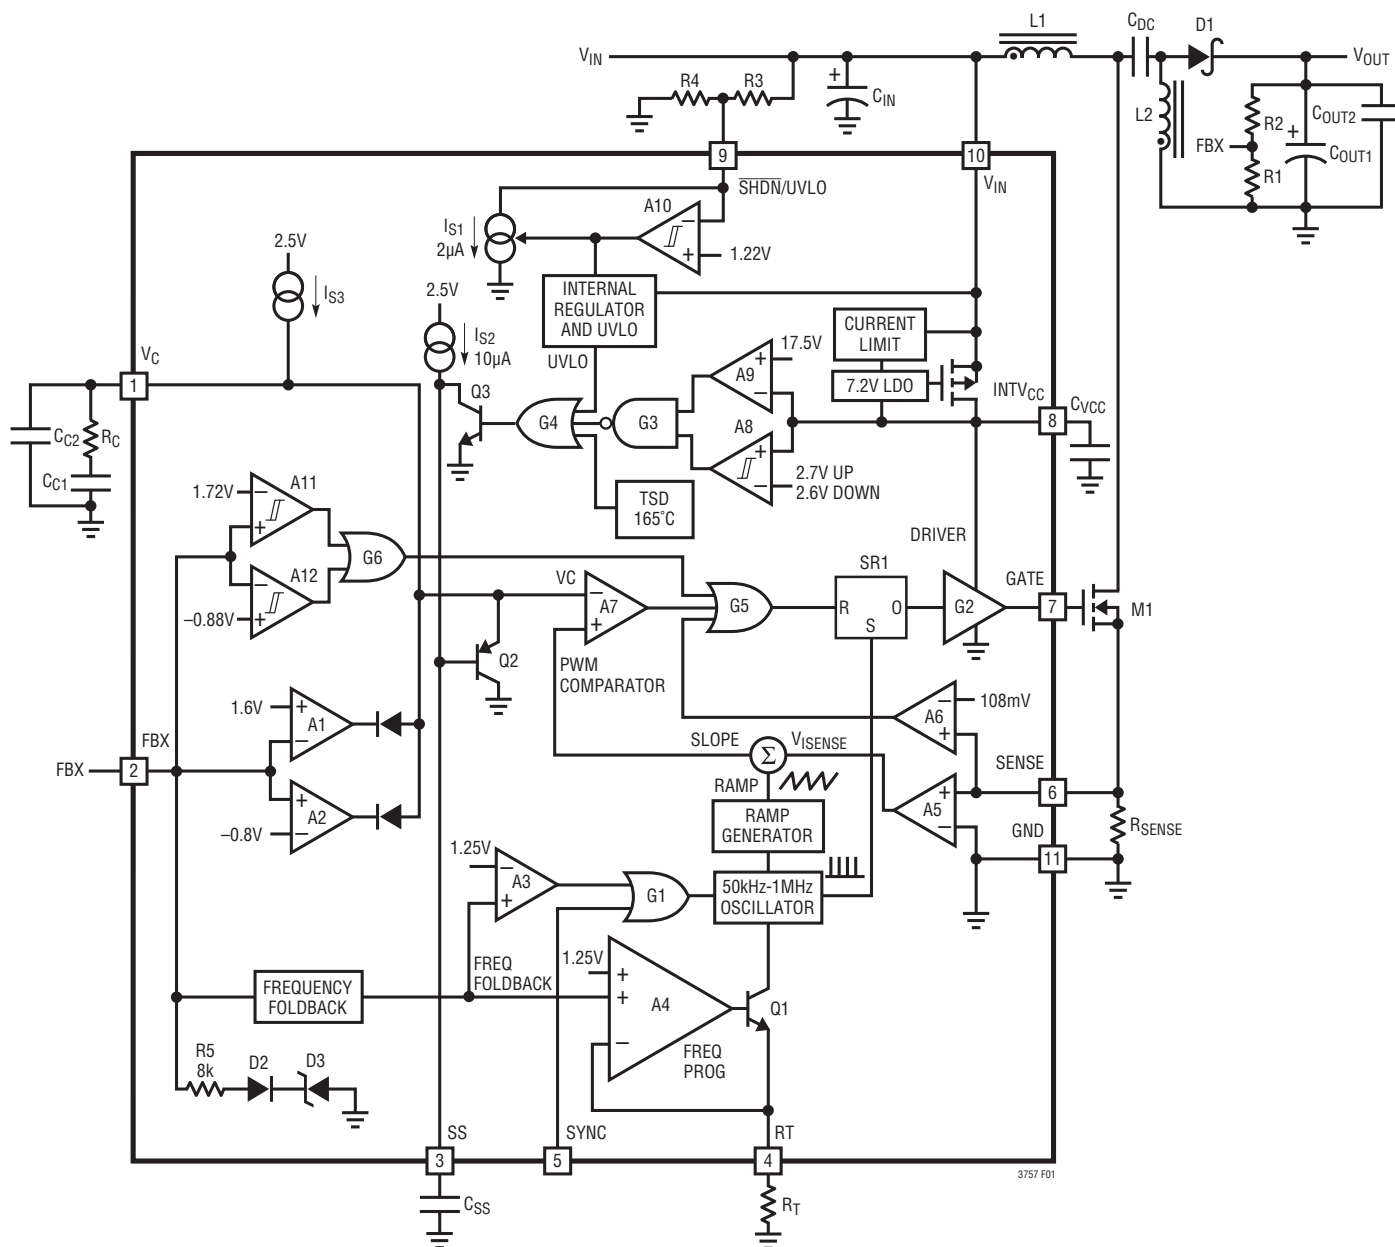

Figure 1. LT3757 Block Diagram Working as a SEPIC Converter
The LT3757 uses a fixed frequency, current mode control scheme to provide excellent line and load regulation. Operation can be best understood by referring to the Block Diagram in Figure 1.
The LT3757 is capable of generating either positive or negative output voltage with a single FBX pin. It can be configured as a boost, flyback or SEPIC converter to generate positive output voltage, or as an inverting converter to generate negative output voltage. When configured as a SEPIC converter, as shown in Figure 1, the FBX pin is pulled up to the internal bias voltage of 1.6V by a voltage divider ($R1$ and $R2$) connected from V_{OUT} to GND. Comparator A2 becomes inactive and comparator A1 performs the inverting amplification from FBX to V_C . When the LT3757 is in an inverting configuration, the FBX pin is pulled down to -0.8V by a voltage divider connected from V_{OUT} to GND. Comparator A1 becomes inactive and comparator A2 performs the noninverting amplification from FBX to V_C .
The purpose of this current is to allow the user to program the rising hysteresis. The Block Diagram of the comparator and the external resistors is shown in Figure 1. The typical falling threshold voltage and rising threshold voltage can be calculated by the following equations:
An internal, low dropout (LDO) voltage regulator produces the 7.2V INTV_{CC} supply which powers the gate driver, as shown in Figure 1. If a low input voltage operation is expected (e.g., supplying power from a lithium-ion battery or a 3.3V logic supply), low threshold MOSFETs should be used. The LT3757 contains an undervoltage lockout comparator A8 and an overvoltage lockout comparator A9 for the INTV_{CC} supply. The INTV_{CC} undervoltage (UV) threshold is 2.7V (typical), with 100mV hysteresis, to ensure that the MOSFETs have sufficient gate drive voltage before turning on. The logic circuitry within the LT3757 is also powered from the internal INTV_{CC} supply.
The choice of operating frequency may be determined by on-chip power dissipation, otherwise it is a trade-off between efficiency and component size. Low frequency operation improves efficiency by reducing gate drive current and MOSFET and diode switching losses. However, lower frequency operation requires a physically larger inductor. Switching frequency also has implications for loop compensation. The LT3757 uses a constant-frequency architecture that can be programmed over a 50kHz to 1000kHz range with a single external resistor from the RT pin to ground, as shown in Figure 1. The RT pin must have an external resistor to GND for proper operation of the LT3757. A table for selecting the value of R_T for a given operating frequency is shown in Table 1.
The output voltage (V_{OUT}) is set by a resistor divider, as shown in Figure 1. The positive and negative V_{OUT} are set by the following equations:
In the applications where V_{OUT} is pulled up by an external positive power supply, the FBX pin is also pulled up through the R2 and R1 network. Make sure the FBX does not exceed its absolute maximum rating (6V). The R5, D2, and D3 in Figure 1 provide a resistive clamp in the positive direction. To ensure FBX is lower than 6V, choose sufficiently large R1 and R2 to meet the following condition:
The LT3757 addresses this mechanism with the SS pin. As shown in Figure 1, the SS pin reduces the power MOSFET current by pulling down the V_C pin through Q2. In this way the SS allows the output capacitor to charge gradually toward its final value while limiting the start-up peak currents. The typical start-up waveforms are shown in the Typical Performance Characteristics section. The inductor current I_L slewing rate is limited by the soft-start function.
The optimum values depend on the converter topology, the component values and the operating conditions (including the input voltage, load current, etc.). To compensate the feedback loop of the LT3757/LT3757A, a series resistor-capacitor network is usually connected from the V_C pin to GND. Figure 1 shows the typical V_C compensation network. For most applications, the capacitor should be in the range of 470pF to 22nF, and the resistor should be in the range of 5k to 50k. A small capacitor is often connected in parallel with the RC compensation network to attenuate the V_C voltage ripple induced from the output voltage ripple through the internal error amplifier. The parallel capacitor usually ranges in value from 10pF to 100pF. A practical approach to design the compensation network is to start with one of the circuits in this data sheet that is similar to your application, and tune the compensation network to optimize the performance. Stability should then be checked across all operating conditions, including load current, input voltage and temperature.